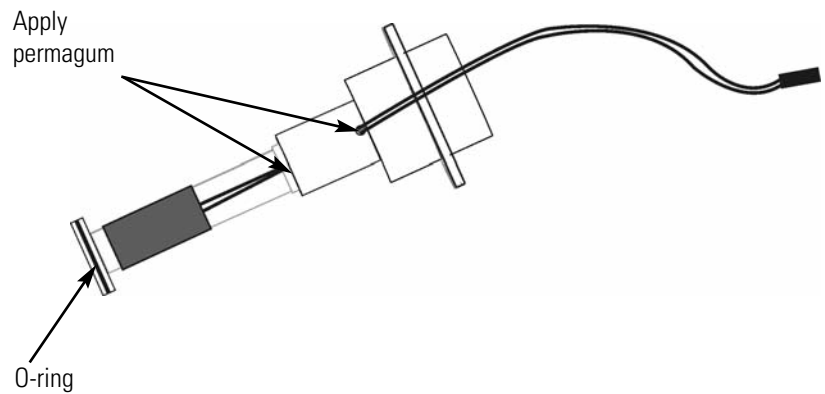

Figure 3. Vacuum relief port assembly
4. Apply Permagem to the two locations where the blue wires enter and exit the assembly as shown in figure 3.